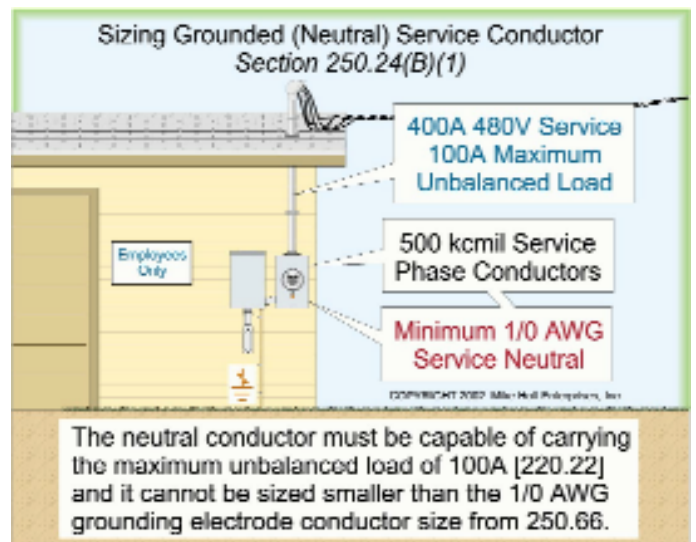

Figure 250-61
**Question:** What is the minimum size grounded (neutral) service conductor required for a 400A, 3-phase, 480V service where the ungrounded service conductors are 500 kcmil and the maximum unbalanced load is 100A? Figure 250-61